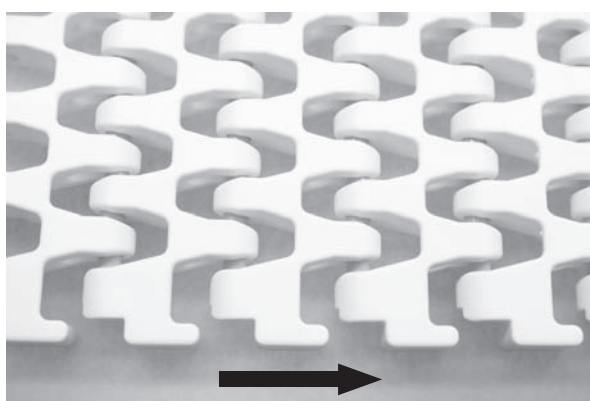

Figure 42
1. Position the belt on the conveyor frame (**Figure 42**).
Ensure the belt is running in the correct direction (**Figure 42**).